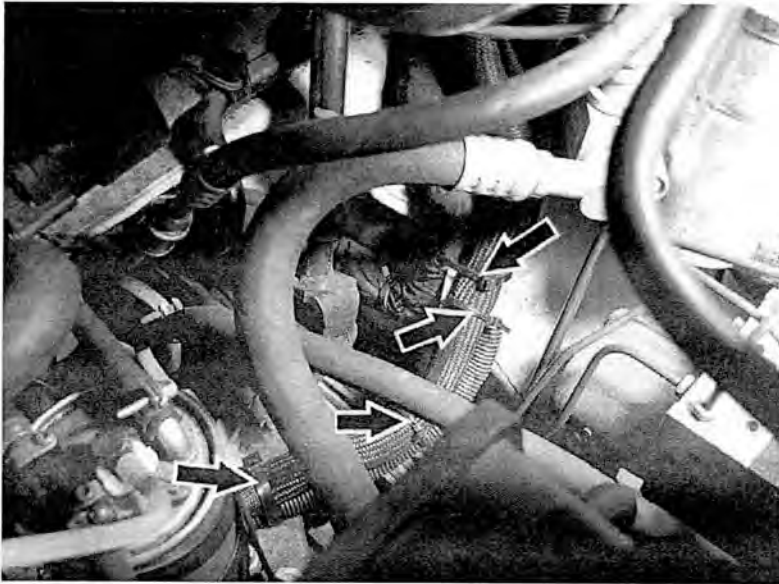

Figure 27
- Install **new** cable ties to **same location** on engine harness. New cable ties should be the **same size** as cable ties removed during disassembly. Please refer to Figures 27 and 28 for location of cable ties (arrows) located near steering linkage.